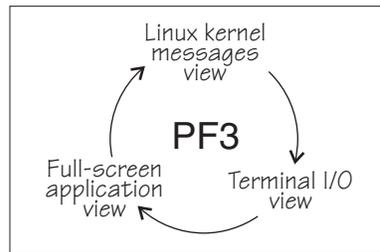

Figure 53. Switching views of the 3270 terminal device driver
Use function key 3 (PF3) to switch between the views (see Figure 53).